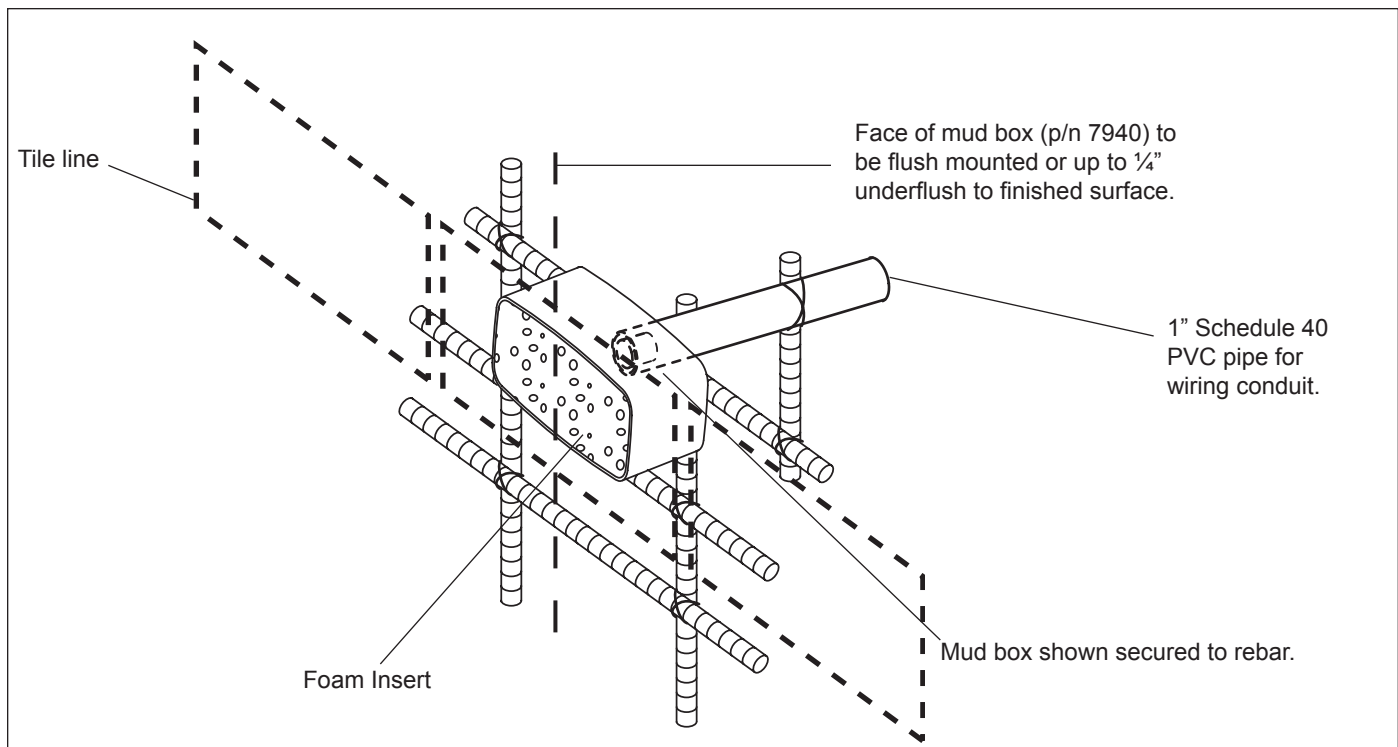

Figure 6. Vertical Wall Rough-in Installation
3. Apply a 1/4" to 3/8" diameter bead of silicone sealant around the mud box. Position and secure the mud box in place. Figure 6 shows mud box secured to rebar.